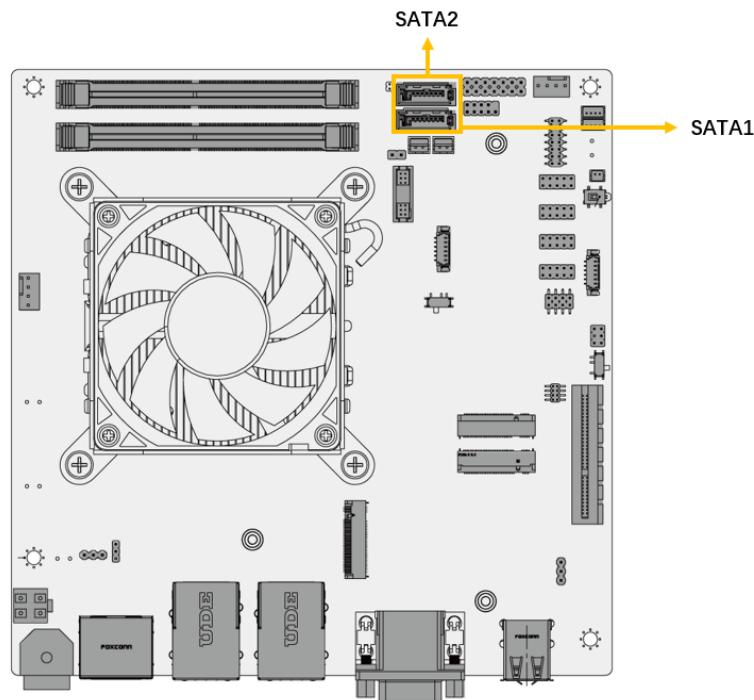

Figure 3-22: SATA 6Gb/s Connector Location
- CN Location:** See **Figure 3-22**